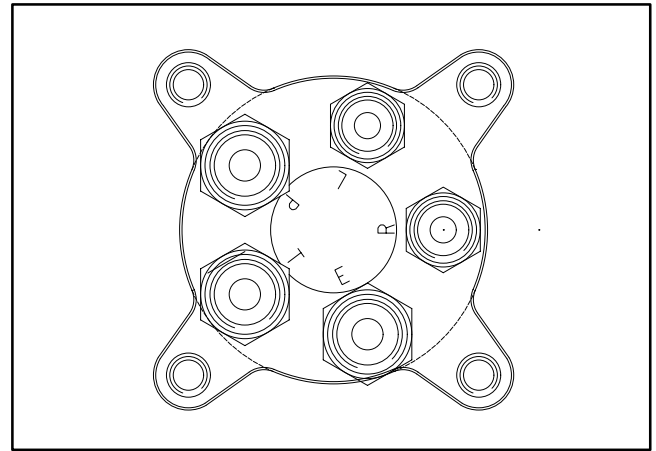

Figure 54
5. Label all hydraulic connections at steering control valve for assembly purposes. Note port designations on steering control valve (Fig. 54).